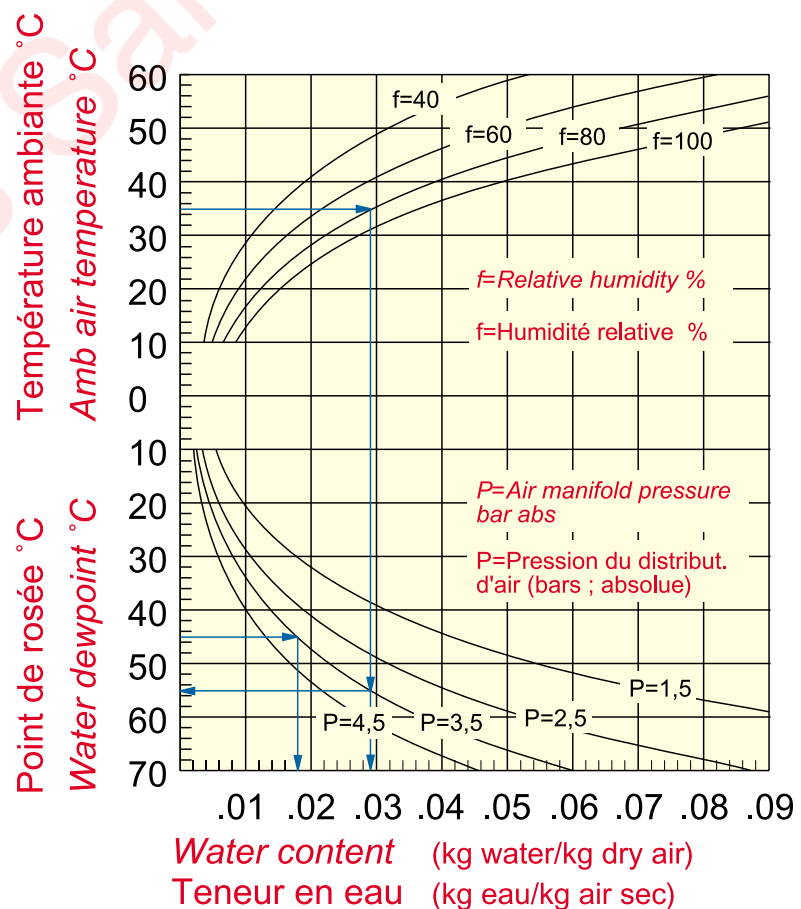

Fig. 03-1
- At loads greater than 60% of the nominal power, the turbo-charging air temperature should, in principle, be as low as possible. However, not low enough to cause condensation. See Figure 03-1). At loads less than 40% of the nominal power, it is better to have the highest possible supercharging air temperature.